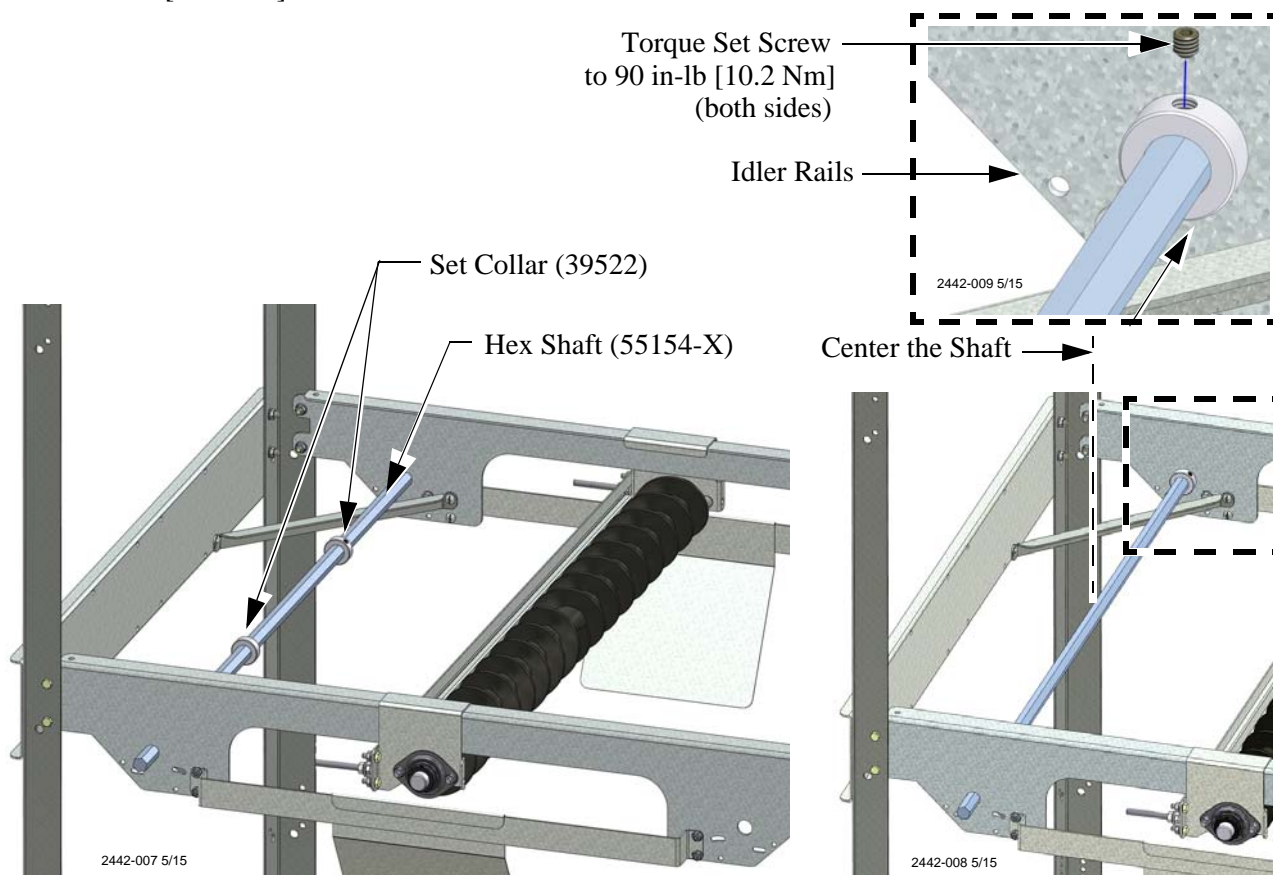

Figure 6. Idler Roller Brace Installation
1. Slide two Set Collars onto the Chain Idler Hex Shaft and slide it through the 7/8" holes in Idler Rails as shown in below in **Figure 6**.